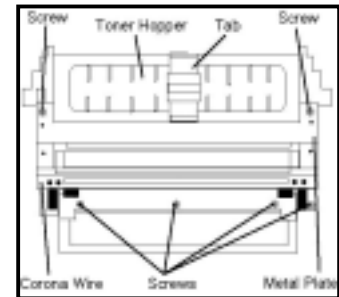

Figure 1
1. Unclip green brace in back & remove toner cartridge (Fig. 1).